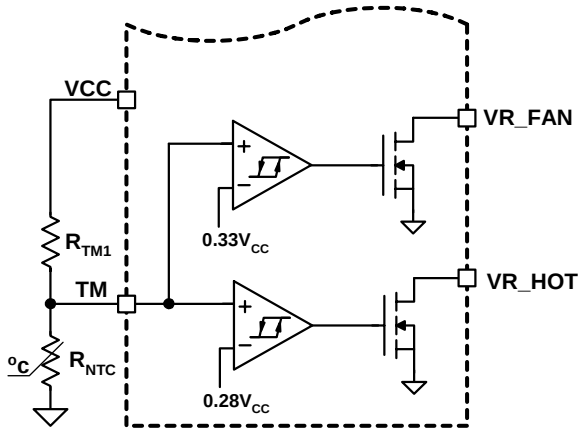
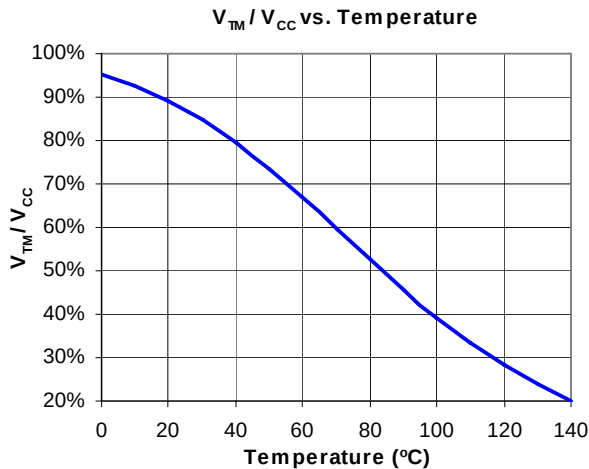

FIGURE 11. BLOCK DIAGRAM OF THERMAL MONITORING FUNCTION
FIGURE 12. THE RATIO OF TM VOLTAGE TO NTC TEMPERATURE WITH RECOMMENDED PARTS
The diagram of thermal monitoring function block is shown in Figure 11. One NTC resistor should be placed close to the power stage of the voltage regulator to sense the operational temperature, and one pull-up resistor is needed to form the voltage divider for the TM pin. As the temperature of the power stage increases, the resistance of the NTC will reduce, resulting in the reduced voltage at the TM pin. Figure 12 shows the TM voltage over the temperature for a typical design with a recommended $6.8k\Omega$ NTC (P/N: NTHS0805N02N6801 from Vishay) and $1k\Omega$ resistor RTM1. We recommend using those resistors for the accurate temperature compensation.
Based on VCC voltage, ISL6326 converts the TM pin voltage to a 6-bit TM digital signal for temperature compensation. With the non-linear A/D converter of ISL6326, the TM digital signal is linearly proportional to the NTC temperature. For accurate temperature compensation, the ratio of the TM voltage to the NTC temperature of the practical design should be similar to that in Figure 12.
1. Properly choose the voltage divider for the TM pin to match the TM voltage vs temperature curve with the recommended curve in Figure 12.